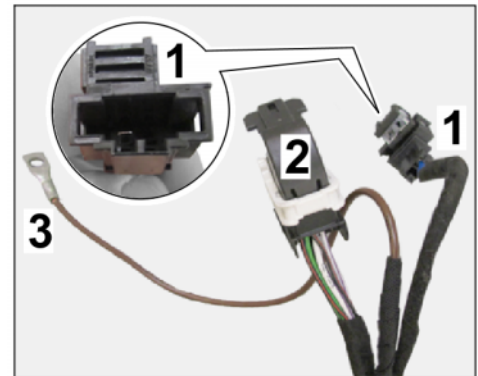

Figure 13
2.7.1 Connect plug connection (2-pin ⇒ *Figure 13*) for brake booster preparation in the luggage compartment area at the left.